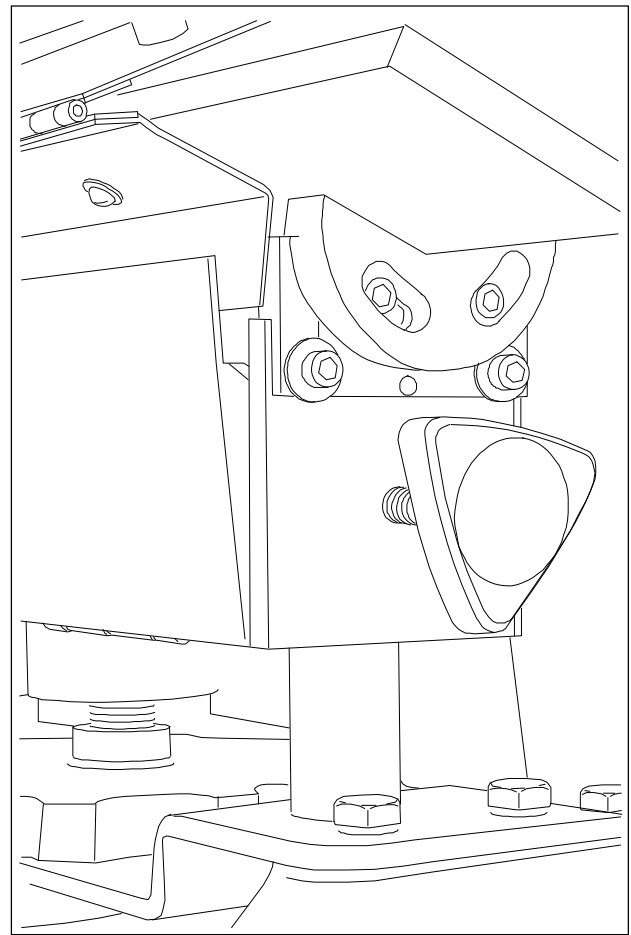

Figure 12: Adjustment of Edge Mill Angle
1. Loosen two cap screws at both ends of the worktable. Refer to Figure 12.